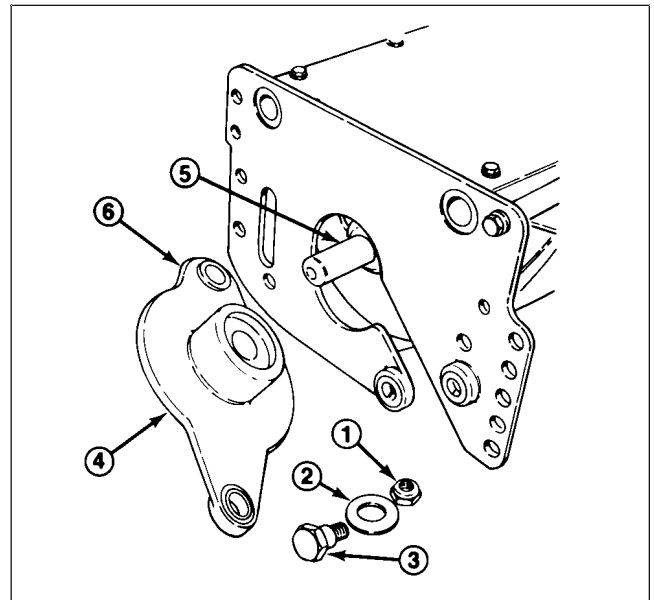

Figure 20
2. Remove the shoulder bolts, bushings and spacers from each end of the unit and remove the bedbar/bed-knife assembly (Fig. 20).
3. Remove the inboard locknut from the adjuster pin, the fasteners for the bracket and remove the adjusting handle assembly from the side plate (Fig. 20).
1. Inspect the flange bushings in the mounting holes for the drive housing and bearing housing for wear (Fig. 20). Replace, if necessary.
7. Insert the shoulder bolt through the Belleville washer and rear housing mounting hole. Slide the bolt through the side plate mounting hole (Fig. 20). Install the cone nut locknut onto the bolt. Tighten the cone nut to 45 - 55 ft.-lbs.